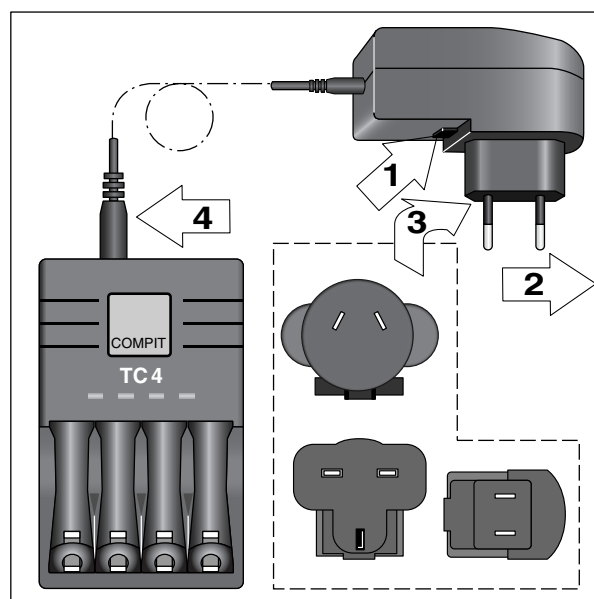

Fig. 3-2 Exchanging the connector, connecting the charger
- push the button below the connector and hold it depressed (1, Fig. 3-2)